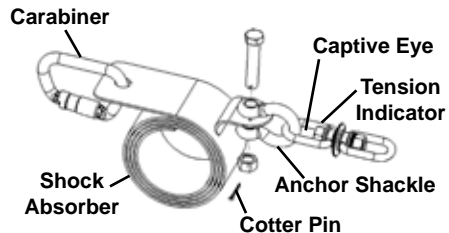

Figure 7
A. Shock Absorber Assembly: Shock Absorber to Tension Indicator using Anchor Shackle and Carabiner to Shock Absorber (see Figure 7)